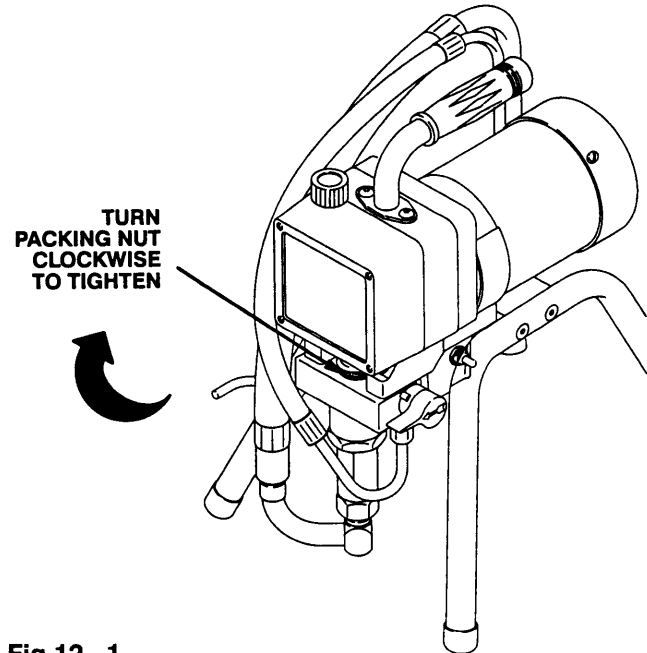

Fig 12-1
2. **Tighten the packing nut/wet-cup just enough to stop leakage.** Over-tightening causes binding and excessive packing wear. Use a round punch or brass rod and a light hammer to adjust the nut. See Fig 12-1.